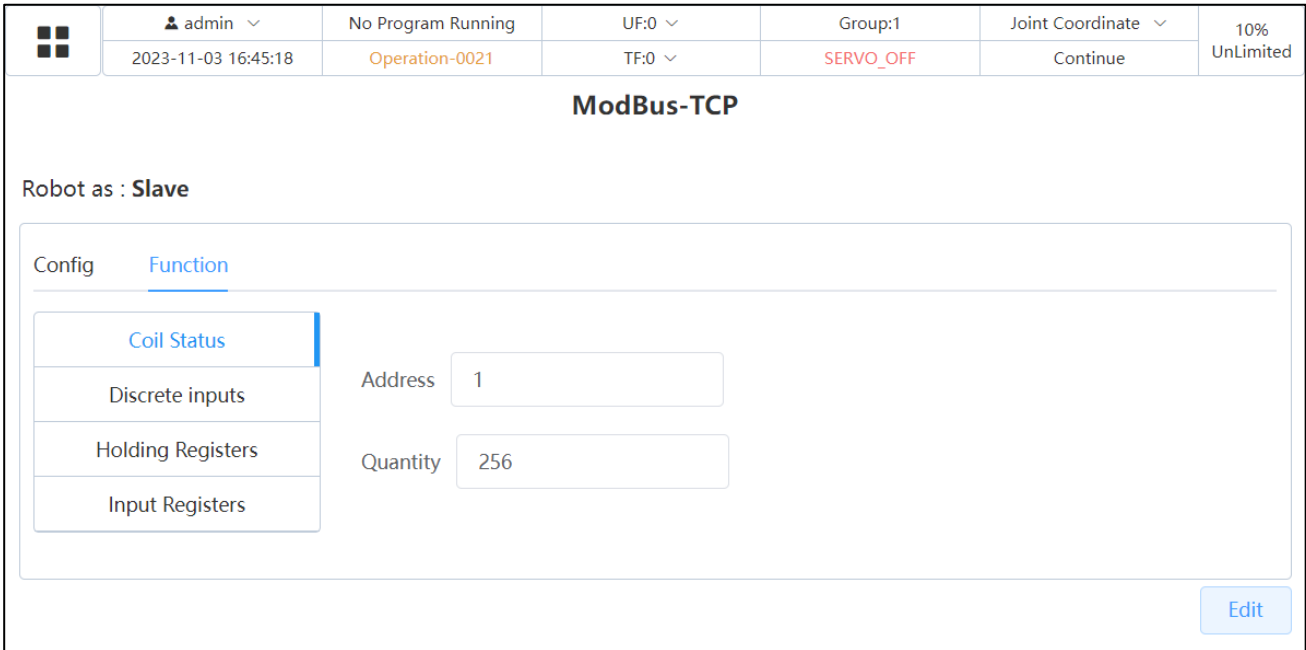

Fig. 6.2 Bus Register Signal Setting Screen
2. Click "Function" in Fig. 6.1 to enter the register setting interface shown in Fig. 6.2.
3. Set register address and number according to actual needs as shown in Fig. 6.2.